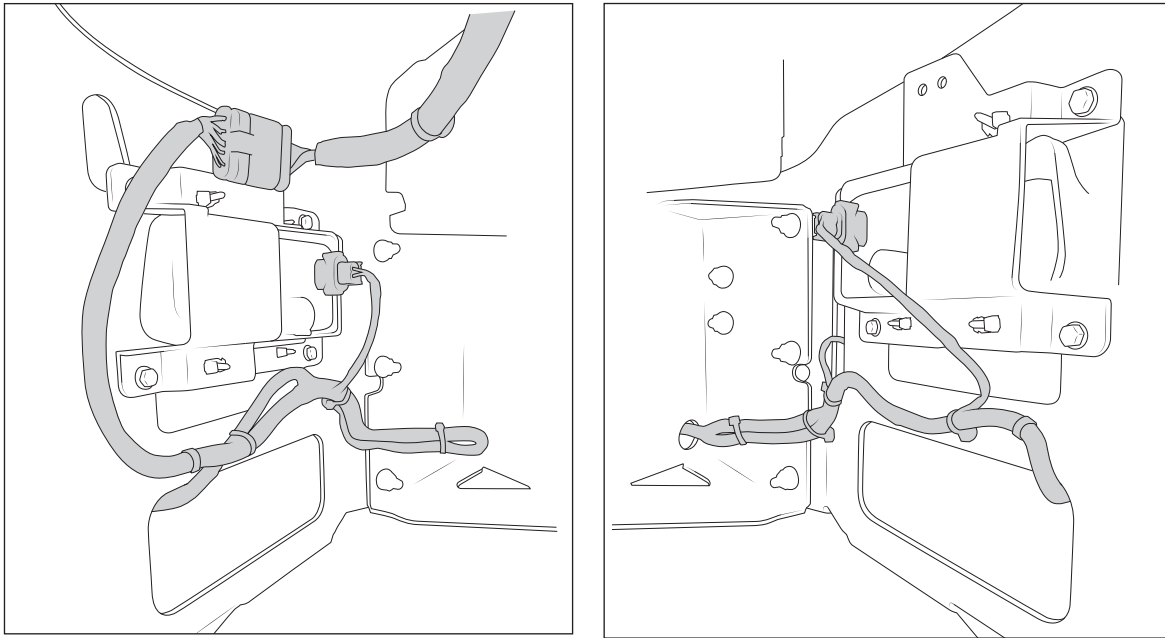

Figure 29
4. Connect the factory lighting and park sensor harness (fig. 29).